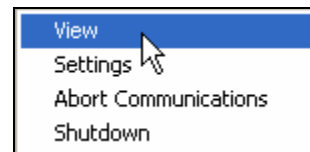

Figure 13.0.11
- Select **View** (Figure 13.0.11).